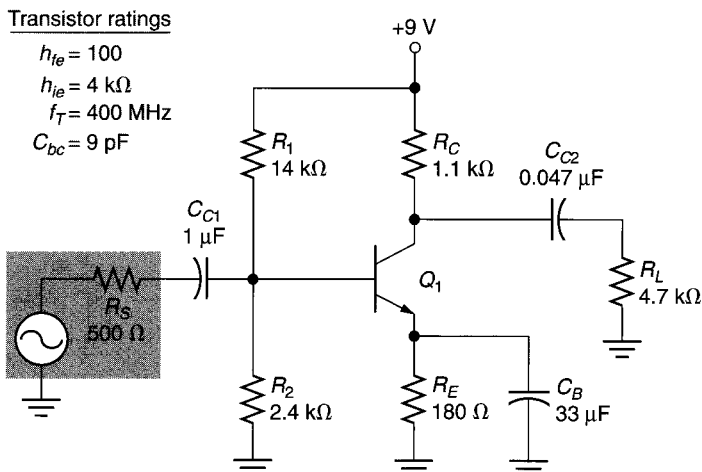

FIGURE 14.32
12. Calculate the value of  $f_{1B}$  for the amplifier in Figure 14.32.
14. Calculate the value of  $f_{1C}$  for the amplifier in Figure 14.32.
16. Calculate the value of  $f_{1E}$  for the amplifier in Figure 14.32.
26. Determine the value of  $f_{2B}$  for the amplifier in Figure 14.32.
28. Determine the value of  $f_{2C}$  for the amplifier in Figure 14.32.